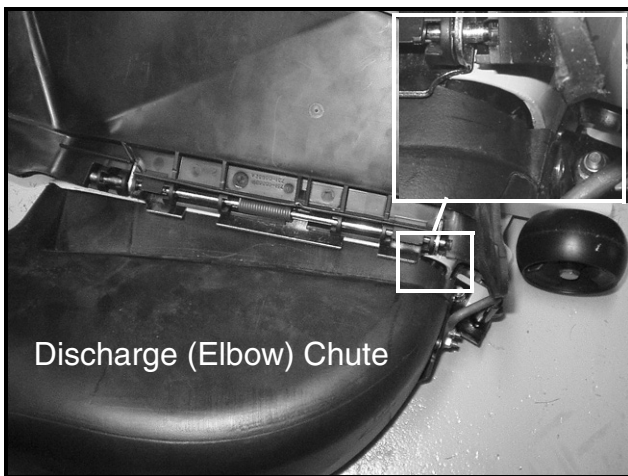

FIGURE 4
9. Figures 4 and 5 show the discharge (elbow) chute installed onto the deck.